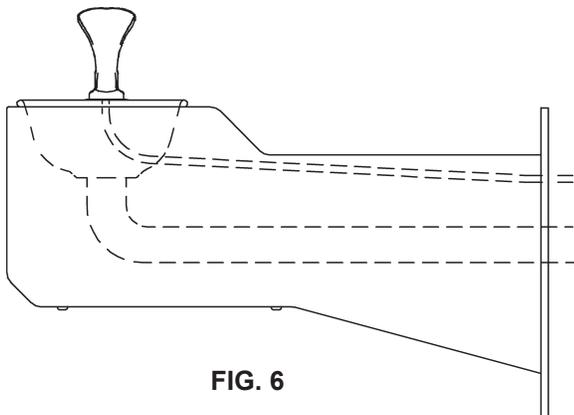

FIG. 6
4. Connect water line from fountain bubbler into freeze resistant box. The connection to the box uses a quick connect water fitting. Position the water line, in the fountain, to drain back into interior mounted box. Any water left standing, in the exterior line, can freeze. See Fig. 6.